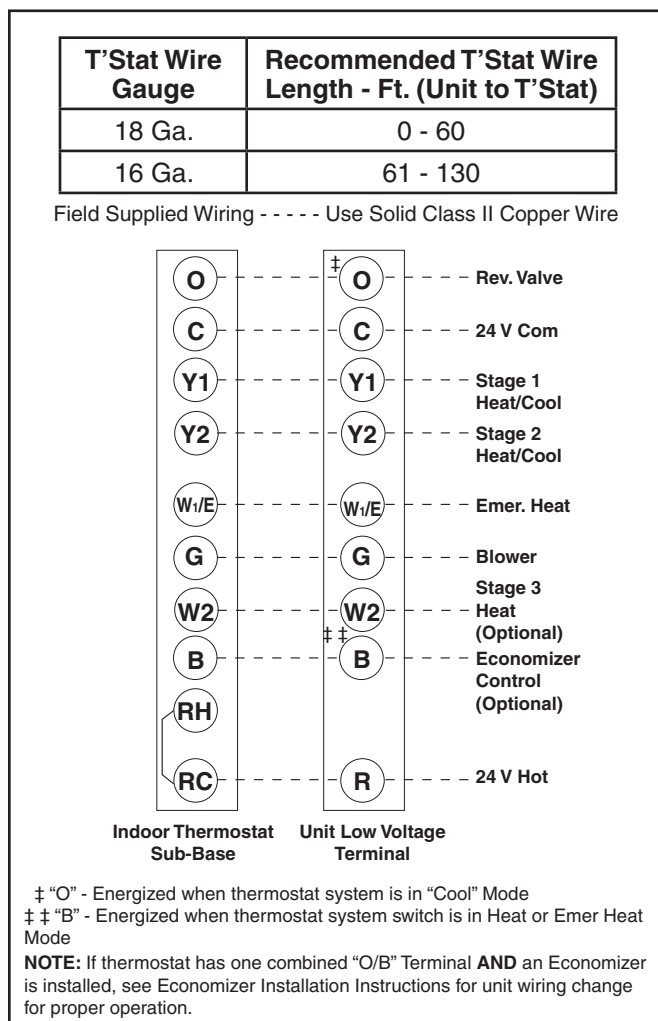

Figure 7. Typical Connections - 2 Stage Cool/3 Stage Heat T-Stat
2. Cut out the cable opening and route the thermostat cable from the unit’s low voltage compartment to the thermostat location. The thermostat cable is supplied by the installer. See Figure 7 for recommended wire size.
3. Connect the cable leads to the subbase or thermostat terminals and to the unit’s low voltage terminal block as shown in Figure 7. System wiring diagrams are also provided on the inside of the control access panel and in Figure 8a and 8b of these installation instructions.